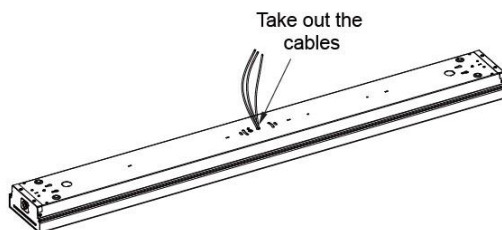

Figure 7
1. Take out the cables from the lamp base. (Figure 7)